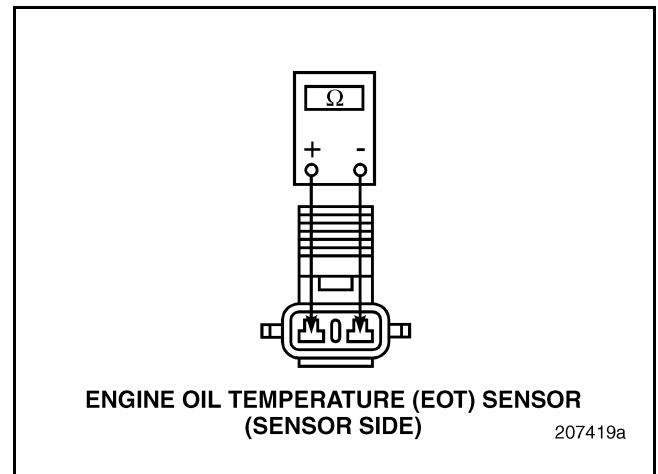

Figure 267
3. Measure the resistance across the pins of the EOT Sensor with the engine oil temperature between 32° and 194°F (0° and 90°C) (see Figure 267).